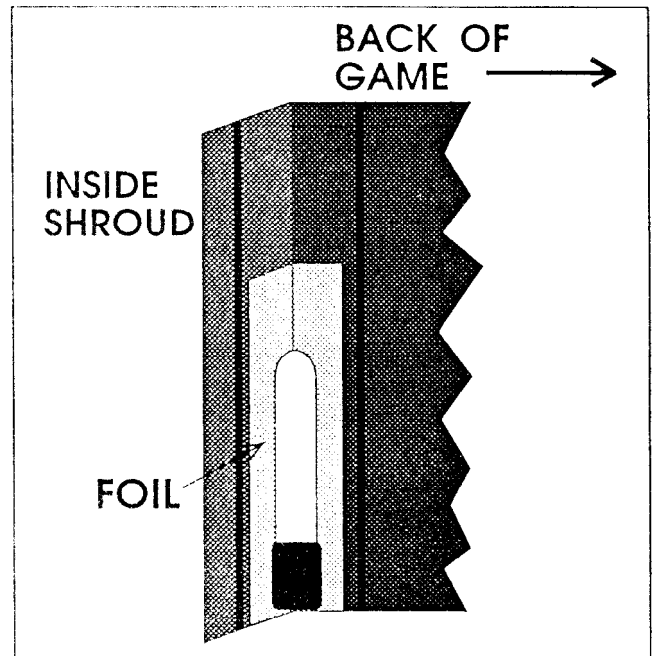

Figure 1
1. Remove the plastic lamp deflectors from the grooves on either side of the (3) lamps. Check to be sure that there is a silver foil piece behind each lamp, and that it is properly positioned in the corner of the shroud. It should look like Figure 1.